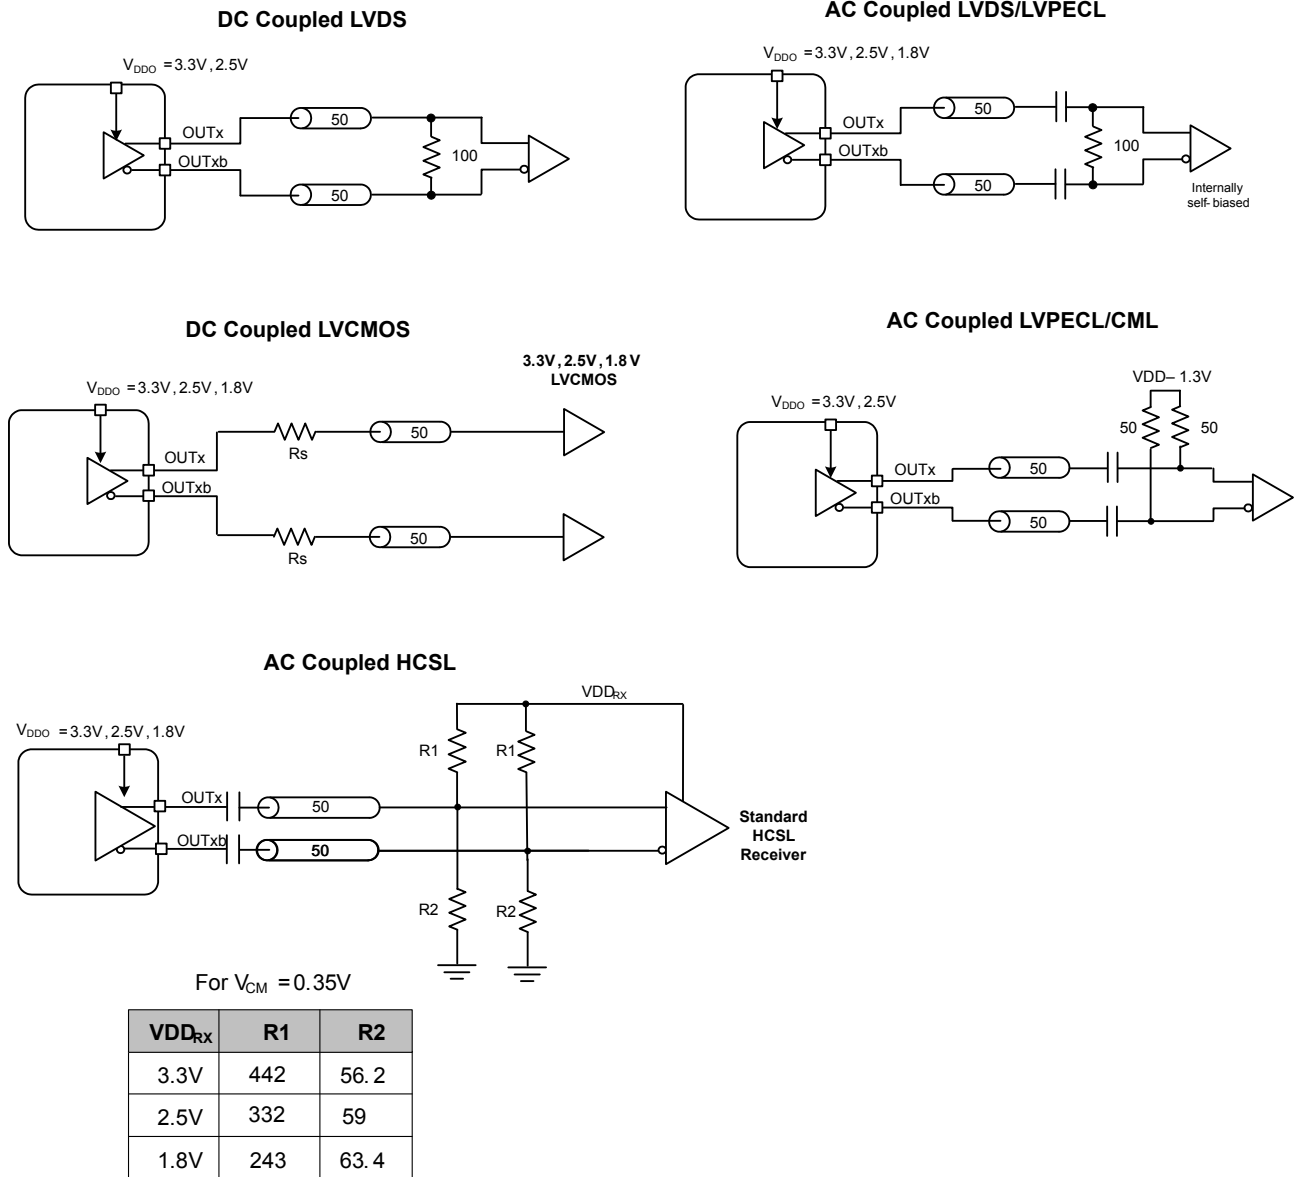

Figure 4.2. Si5386 Supported Differential Output Terminations
2. Creates HCSL compatible signals, see HCSL receiver biasing network in Figure 4.2 Si5386 Supported Differential Output Terminations on page 36.